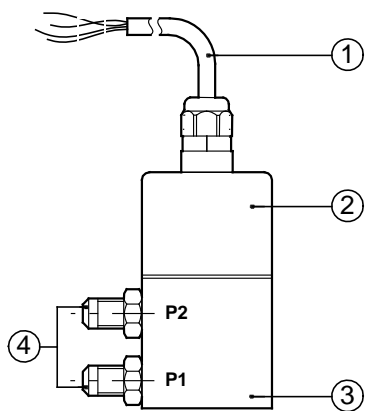

Fig. 67 DPI position numbers
A cable (pos. 1) goes through an M12 x 1.5 Pg connection. See fig. 67.